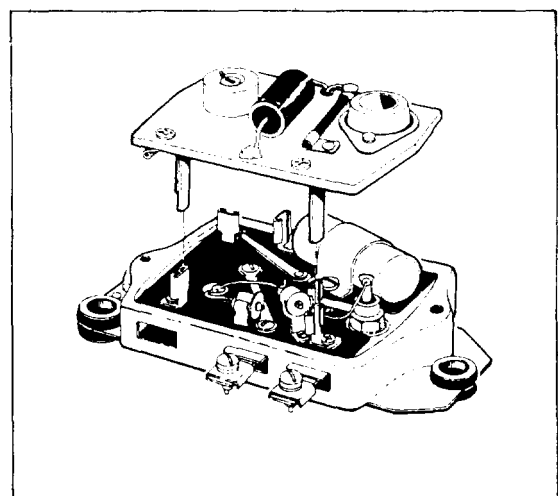

Figure 4-3.-Transistor regulator (Delco Remy).
3. The transistor regulator shown in figure 4-3 is a Delco-Remy model. Usually, you may adjust voltage internally by turning a slotted-head screw on the potentiometer which varies the connection, allowing for adjustments less than \_ volt(s).
The transistor regulator shown in figure 4-3 is a Delco-Remy model. It has two terminals, no moving parts, and limits the alternator voltage through the action of two transistors working together. This model performs the one function of controlling the alternator voltage to a preset value. From the wiring diagram shown in figure 4-4, the charging circuit consists of the alternator, regulator, battery, field relay, junction block, wiring, and either an ammeter or indicator light.